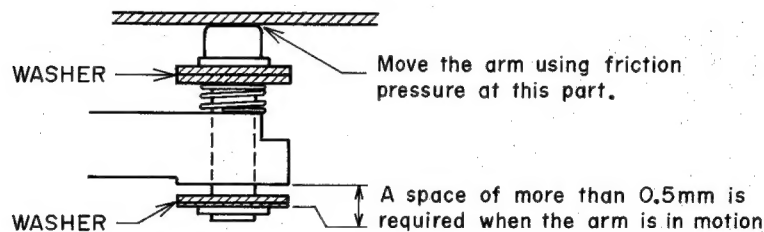

Fig. 5-12
- b. When on start/cut, the loading arm and friction rubber come into contact by the rotation of the main gear and the tone arm moves. When this happens the gap between the rotate plate and the E ring should be 0.5 mm. If an adjustment washer is used, it should be possible to turn the washer lightly with the fingers within the 0.5 mm gap. If the space is less than 0.5 mm, the tone arm will move before it has risen completely and particularly in the cut operation it might scratch the record surface. If the space is too much the friction pressure becomes less so the tone arm will not reach the lead in position, or the tone arm moves up and down at the rest position and does not reach the record. Even if it moves, it does not come back to the rest position correctly. So adjust the thickness and number of washers shown in Fig. 5-12 so that the tone arm moves smoothly when on lead-in and lead-out.